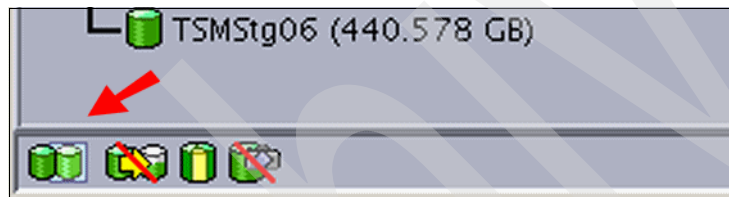

Figure 13-25 Enhanced Remote Mirroring icon: Enabled/Activated
2. To check that the Enhanced Remote Mirroring premium feature is enabled, you can view the icon in the lower left corner of the Subsystem Management window (Figure 13-25 on page 550). The red slash is removed.
The Enhanced Remote Mirroring status icon at the lower left of the Subsystem Management window shows Enabled/Activated (Figure 13-25).